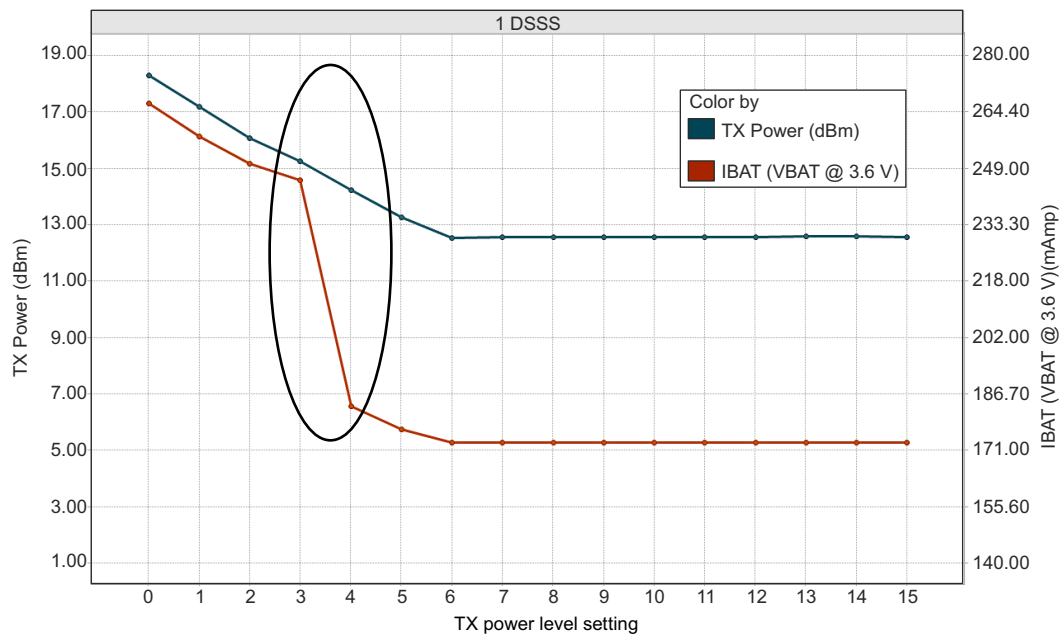
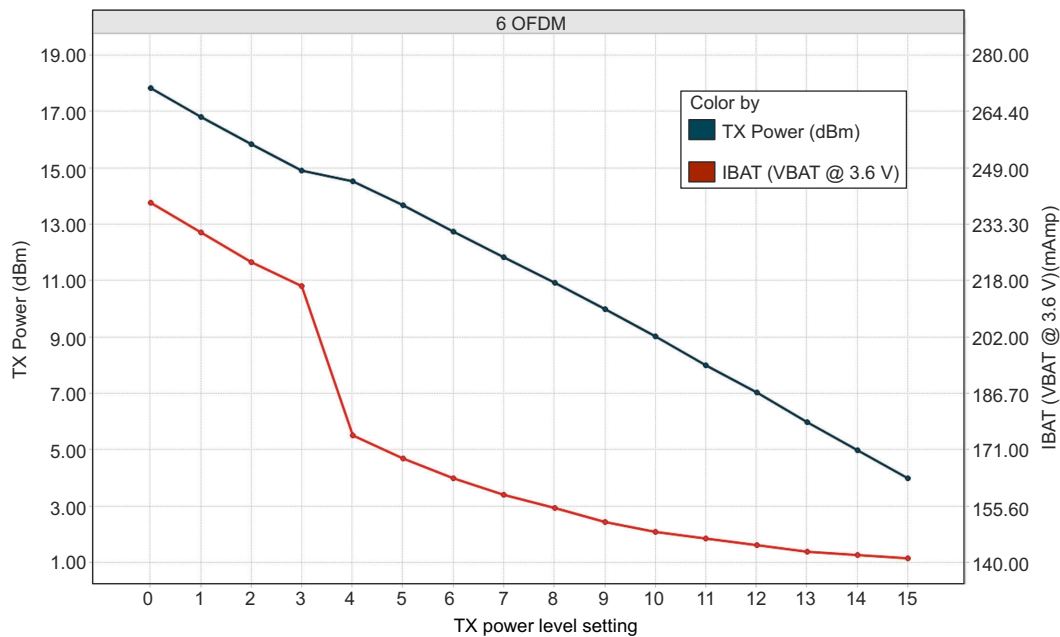
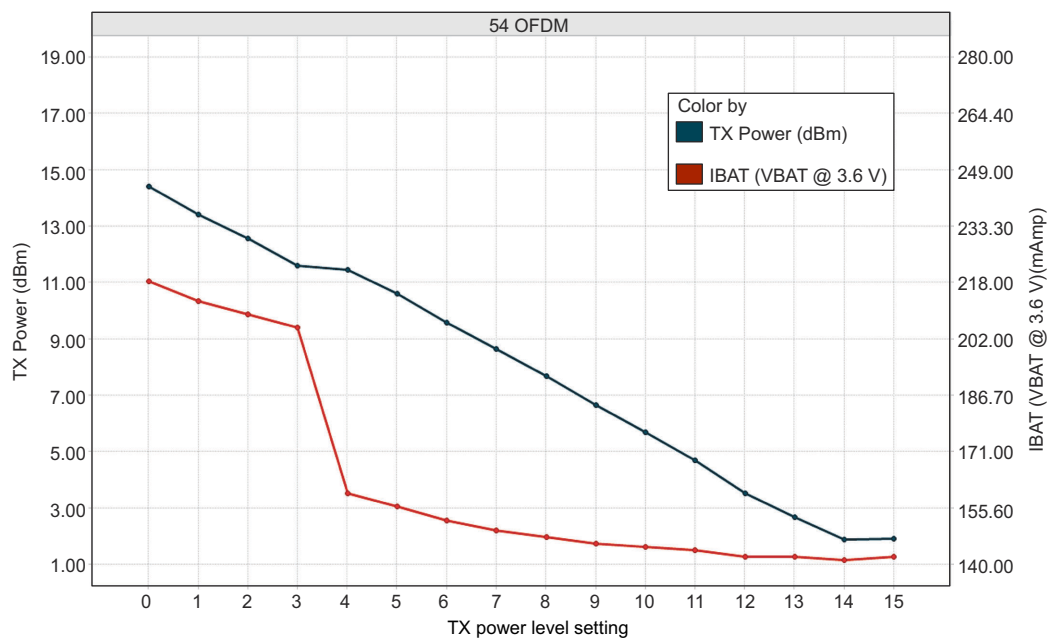

图 7-1. TX Power and IBAT vs TX Power Level Settings (1 DSSS)
图 7-2. TX Power and IBAT vs TX Power Level Settings (6 OFDM)
图 7-3. TX Power and IBAT vs TX Power Level Settings (54 OFDM)
- (1) TX power level = 0 implies maximum power (see 图 7-1, 图 7-2, and 图 7-3). TX power level = 4 implies output power backed off approximately 4dB.
- (2) The CC3130 system is a constant power-source system. The active current numbers scale based on the V_{BAT} voltage supplied.
- (3) DTIM = 1.
- (4) The complete calibration can take up to 17mJ of energy from the battery over a time of 24ms. In default mode, calibration is performed sparingly and typically occurs when re-enabling the NWP and when the temperature has changed by more than 20°C . There are two additional calibration modes that may be used to reduce or completely eliminate the calibration event. For further details, see CC3x20, CC3x35 SimpleLink™ Wi-Fi® and Internet of Things Network Processor Programmer's Guide.
- (5) The RX current is measured with a 1Mbps throughput rate.
图 7-1, 图 7-2, and 图 7-3 show TX power and IBAT versus TX power level settings for the CC3130 device at modulations of 1 DSSS, 6 OFDM, and 54 OFDM, respectively.
In 图 7-1, the area enclosed in the circle represents a significant reduction in current during the transition from TX power level 3 to level 4. In the case of lower range requirements (14dBm output power), TI recommends using TX power level 4 to reduce the current.